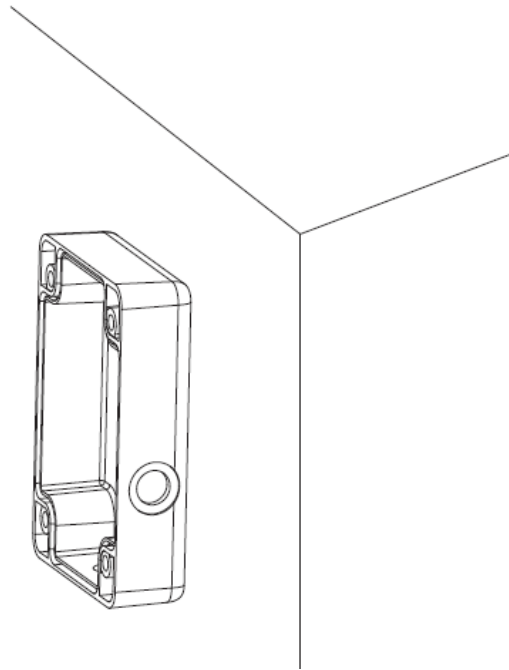

Figure 5-2
1). Please draw holes position in the wall according to the holes of the bottom of wall mount base. Then you can dig holes and insert the expansion bolts. Use four hex bolts and flat washer to fix the wall mount base in the expansion bolts. See Figure 5-2.